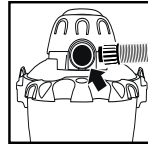

FIGURE 25
46. Your vacuum can be used as a powerful blower. To use your unit as a blower, clear hose of any obstructions. Insert hose end with locking nut into blower port and tighten locking-nut. **FIGURE 25.**